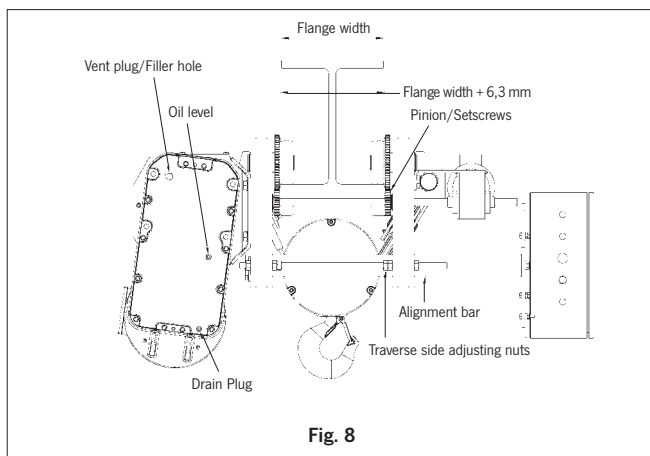

Fig. 8
If the trolley can be installed directly from the end of the supporting beam, adjust the spacing between the trolley wheel flanges to be 4,7 - 6,3 mm greater than the exact width of the beam flange (see Fig. 8).
Once in position, adjust the spacing between the trolley wheel flanges to be 4,7 - 6,3 mm greater than the exact width of the beam flange (see Fig. 8). After tightening all adjusting bolts, set screws, and all electrical conduit/cable clamps, carefully set the trolley on the beam. Lubricate the wheel gear and pinion.
- Check Oil Level (Fig. 8)